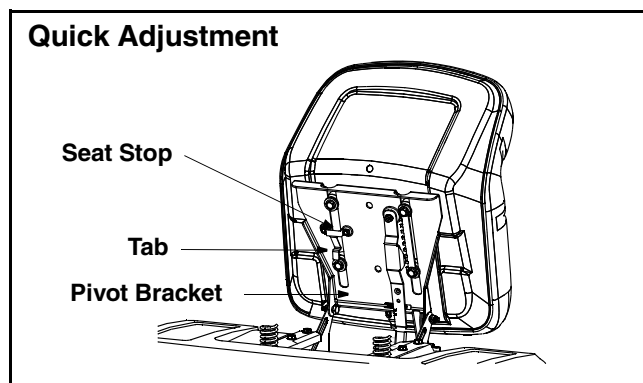

Figure 3
NOTE: If your seat was shipped mounted backwards on the seat pivot bracket, pull out the tab found on the seat stop and hold it open while sliding the seat off the seat pivot bracket. See Figure 3 .
2. Slide seat in until front seat spacer engages the seat stop. See Figure 3 .